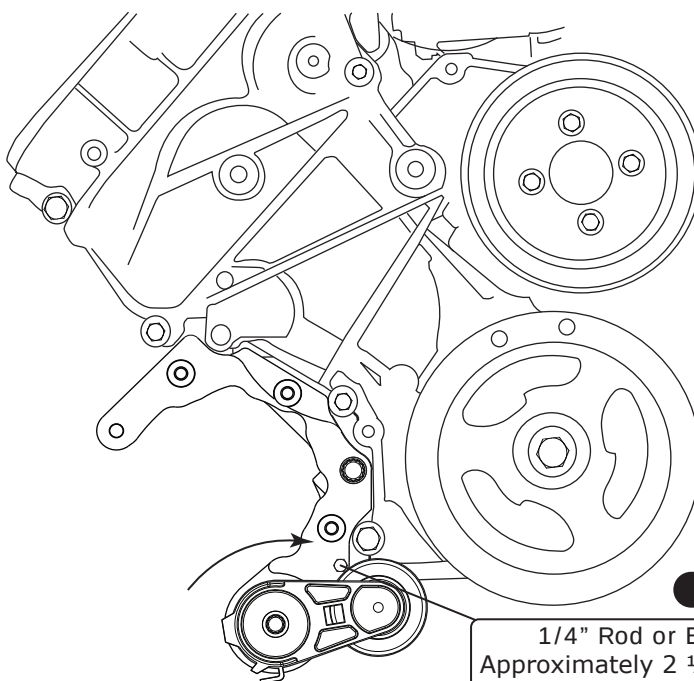

Figure 2
2. Spring back the belt tensioner and lock it in place using a 1/4-20 bolt (See Figure 2, below).